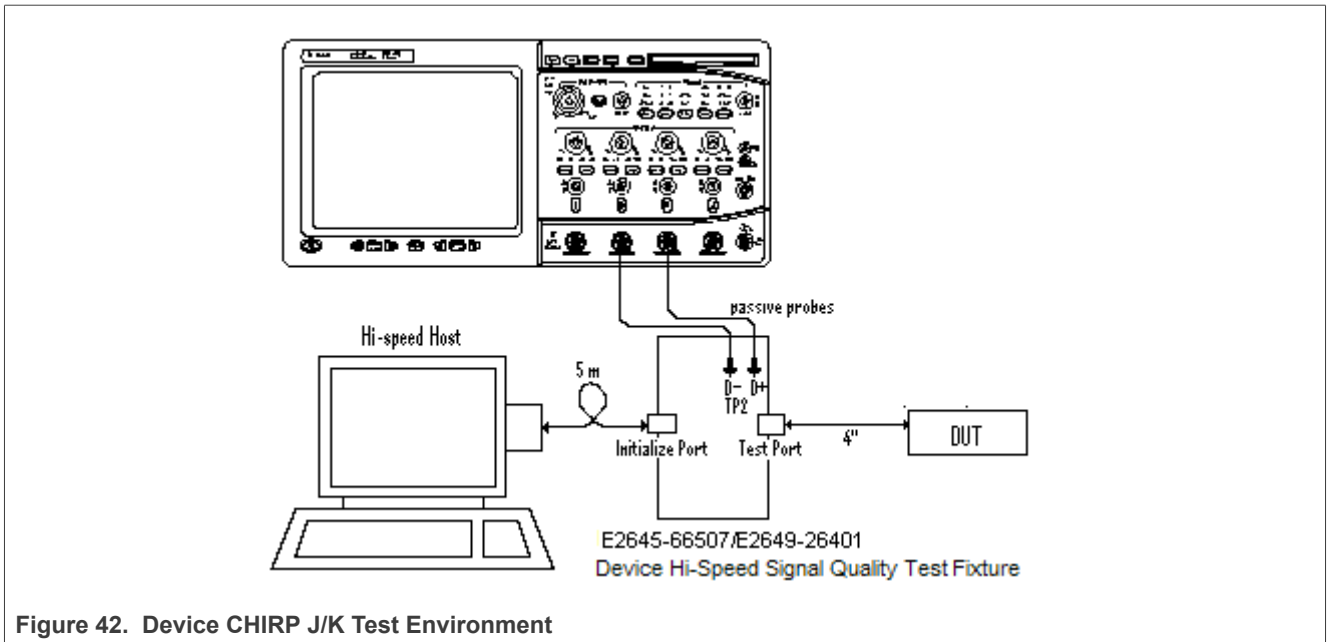

Figure 42. Device CHIRP J/K Test Environment
2. Connect the equipment and test fixture as shown in Figure 42 below.